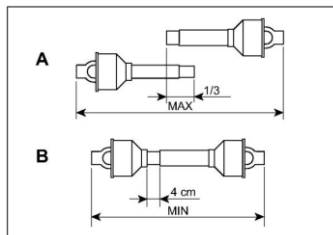

Figure 4
- When the cardan shaft is maximally extended in operating conditions, the telescopic tubes must be overlapped by at least 1/3 of the length (A on Figure 4).
- When the cardan shaft is maximally retracted there must be a space of 4 cm (B, Figure 4).